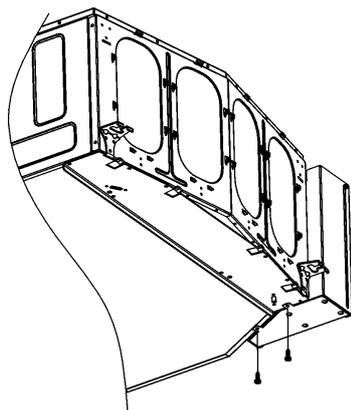

Fig. 27. Releasing screws at the bottom of the box
1. Release two screws at the bottom of the box (see Fig. 27).